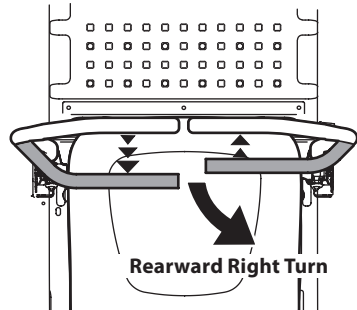

Figure 28
2. To turn clockwise, move the left lapbar drive control lever forward while simultaneously moving the right lapbar drive control lever rearward (Figure 28).